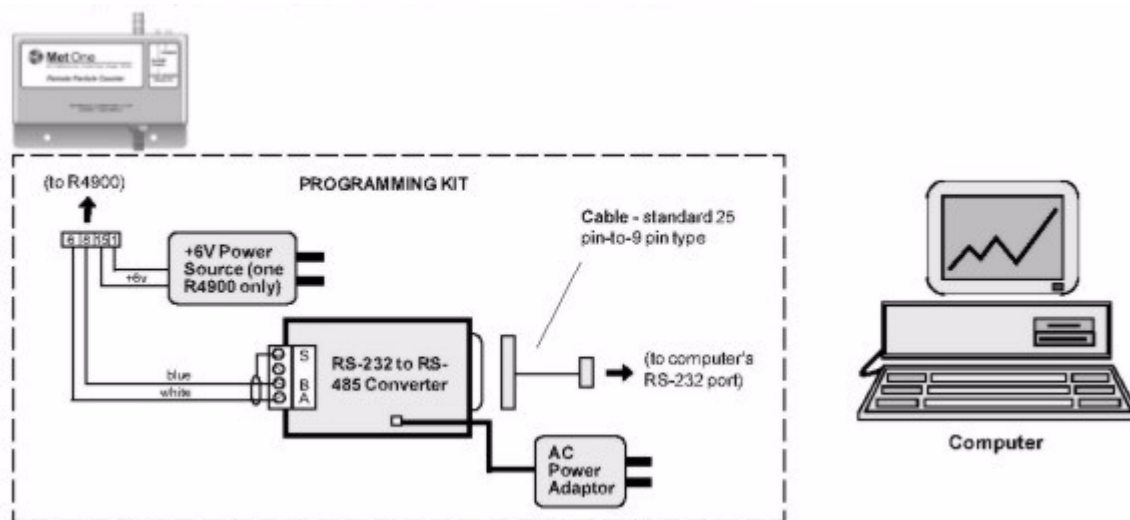

Fig 2-2 : Setting Programming Parameters Using Programming Kit
- 1) Connect the programming kit, computer, and a remote counter as shown in Figure 2-2.